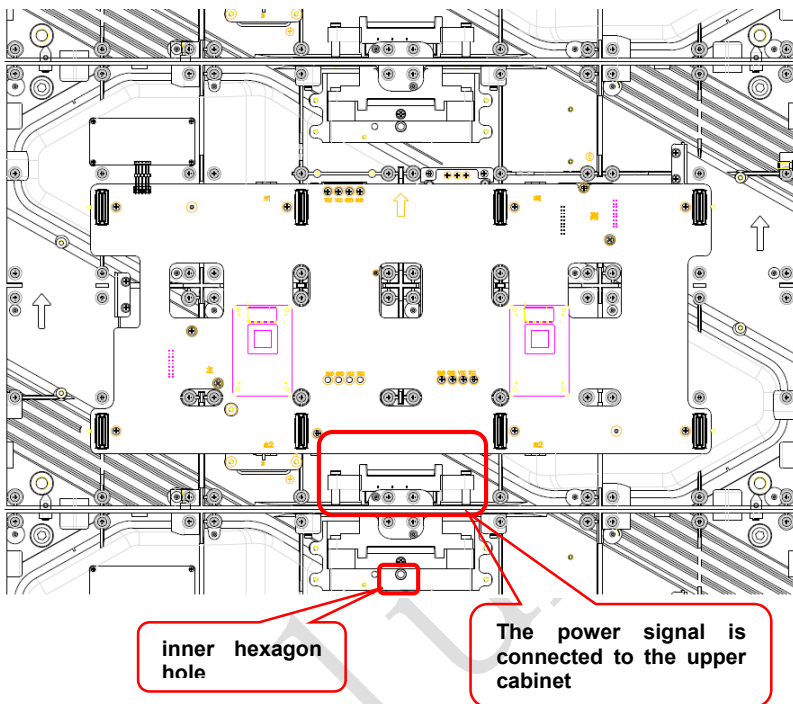

Figure 2-5 Front View of Power Signal Connection Between Cabinets
- 4) After the installation of the cabinet is completed, connect the power signal cable of the upper and lower cabinets by using an Allen wrench to screw up the telescopic structure. as shown in Figure 2-5.